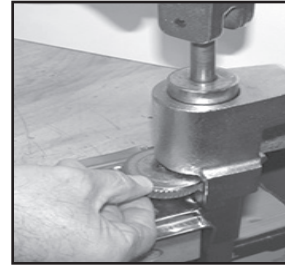

Figure 10
5. Insert the new gear and washer into the slot. Make sure the printed side of the gear is facing out. (Figure 10)